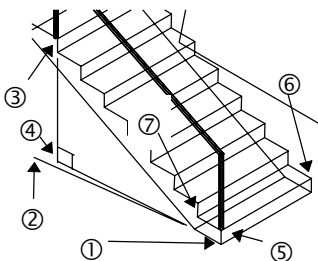

Figure 21
- Using Figure 21 as a guide, issue the 2D-Rotate command, select the inserted handrail, and, when prompted for the *Base Point*, use the *.xy* filter of the block’s *Insertion Point* (plus a point on the current UCS as the Z-value) to indicate the centre of rotation (this is point **1** in Figure 21).
- When prompted for the *Angle*, type **r ↵** (for “Reference”), and then use the *.xy* filter again to pick **1**, then, with ORTHO on, pick any point in the negative-X direction as the second point (say point **2** in Figure 21), and finally use the *.xy* filter and |Endpoint| and pick point **3** (followed by any point on the UCS plane to provide the Z-value) to yield point **4**.